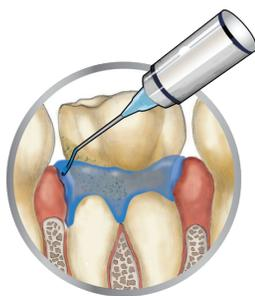

Figure 2: Irrigation
b. Place the irrigation cannula at the apex (deepest point) of the pocket and slowly dispense the solution (figure 2).